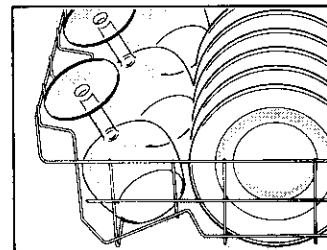

Figure 7.
- Long stemmed glasses should be placed so that they lean against the sides of the rack and not against other glasses or dishware. See Figure 7.